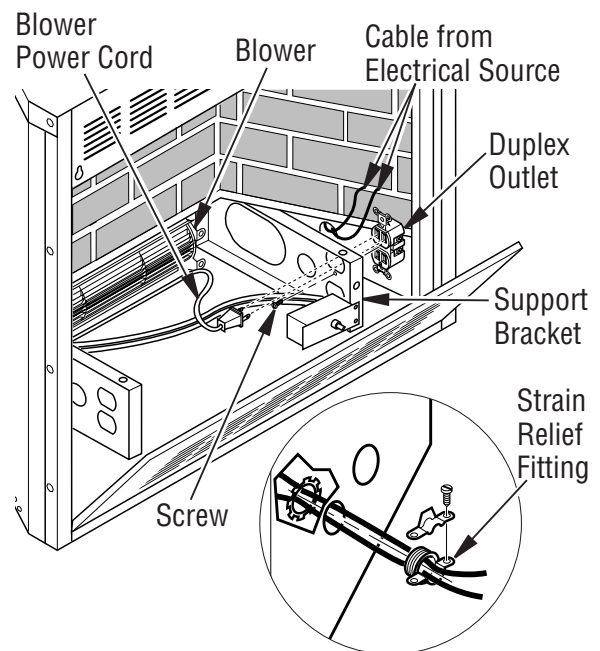

Figure 14 - Connecting Duplex Outlet
2. If using blower, install duplex outlet to the right support bracket in the bottom of firebox (see **Figure 14**). See **Accessories, Page 33**. If not using blower, go to step 7.
3. Route wires from electrical box through smallest hole in outer casing using strain relief fitting provided (see **Figure 14**).